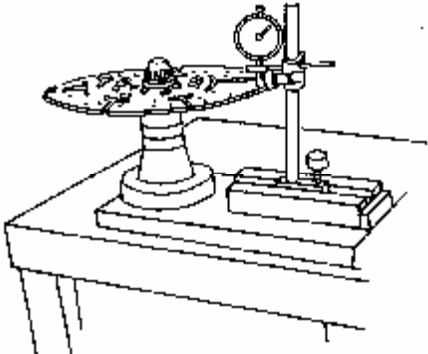

Figure 7-1-8 Axial run-out check -clutch driven plate
②Check axial run-out of clutch driven plate. Measure at the spot 2.5mm from driven plate edge (figure 7-1-8), if results exceed limits (chart 7-1-2), driven plate should be adjusted or replaced.